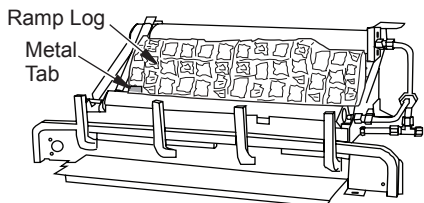

Figure 37 - Installing Fiber Ramp Log
- Place fiber ramp log in center of chassis as shown in Figure 37, page 22. The fiber ramp log can be identified by the shape and much lighter weight when compared to the other logs. The log must sit flat on the black sheet metal and behind the left metal tab as shown. Make sure the side marked "BOTTOM" is setting down.